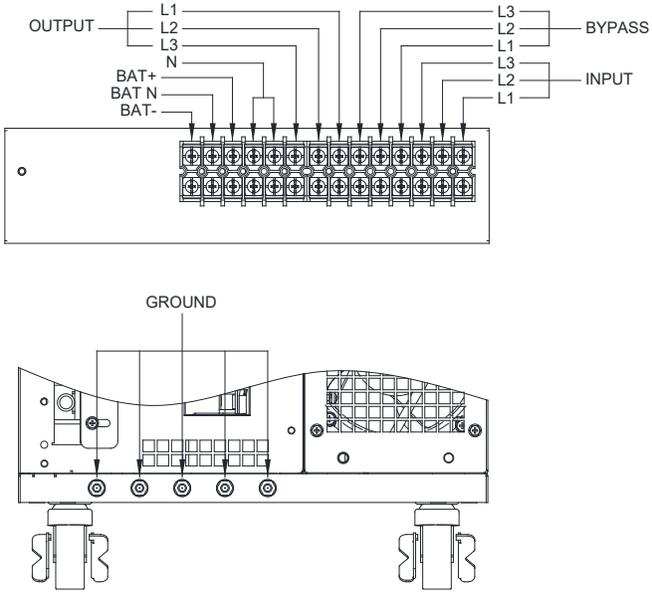
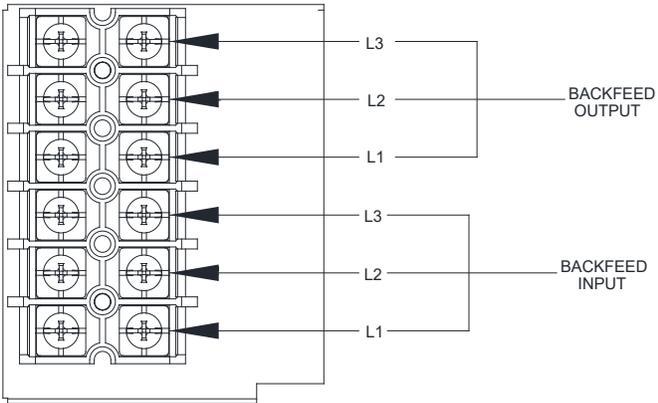
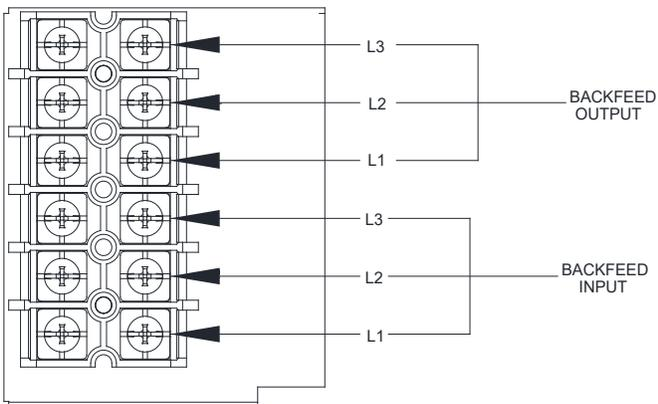
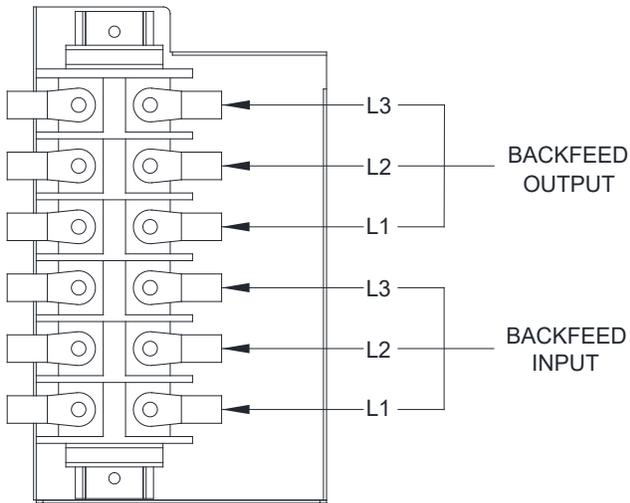

Figure 2-7: 20K Terminals
Figure 2-8: 20K Backfeed terminal
Figure 2-10: 30-40K Backfeed terminal
Figure 2-12: 60-80KS backfeed terminal
3. Remove the short circuit cable in the backfeed terminal, refer to(Figure 2-7~Figure 2-12)
4. Connect external backfeed contactor to the backfeed terminals(Figure 2-8/ Figure 2-10/Figure 2-12) on the UPS